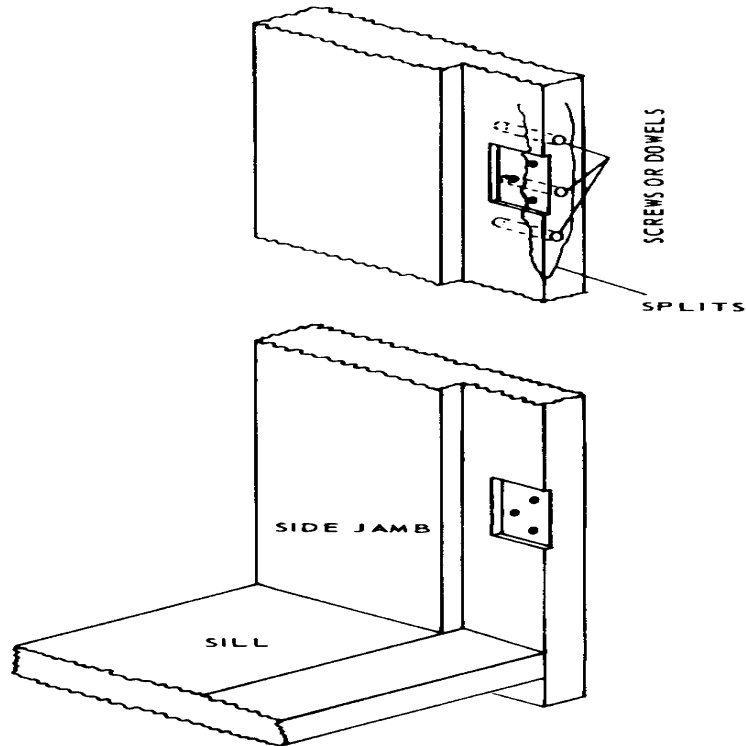

Figure 2, Repairing a split doorjamb.
- The door's weight will often split the jamb where the hinges are fastened. The jamb also often breaks in the area around locks and latches. If damage is severe, you will need to replace the jamb. If the damage isn't too severe and the jamb material isn't badly splintered, repair the damage using wood screws or dowel pins (Figure 2).
When repairing a split doorjamb, you should apply wood glue using a small brush. Then draw the split area back together with wood clamps and secure with screws or dowel pins (Figure 2).